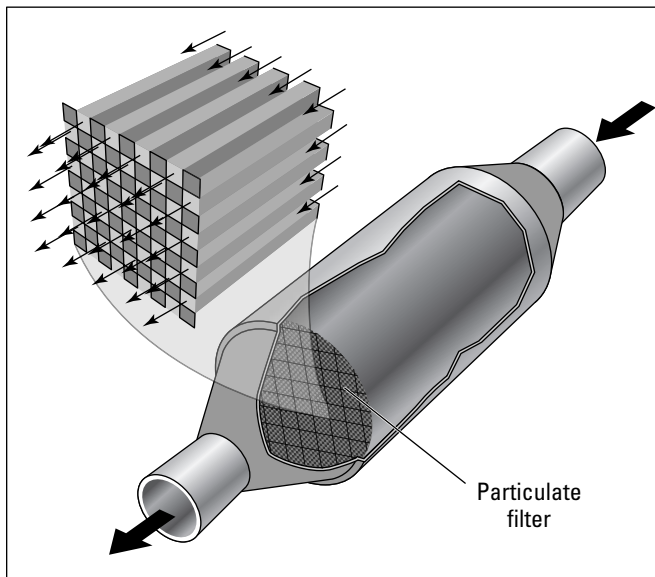

Figure 9-10: A diesel particulate filter.
- ✓ A diesel **particulate filter** (see Figure 9-10) that scrubs sooty particles from the exhaust, trapping them in the filter material and regularly hitting the filter with a burst of superheated gasses to burn up the particles